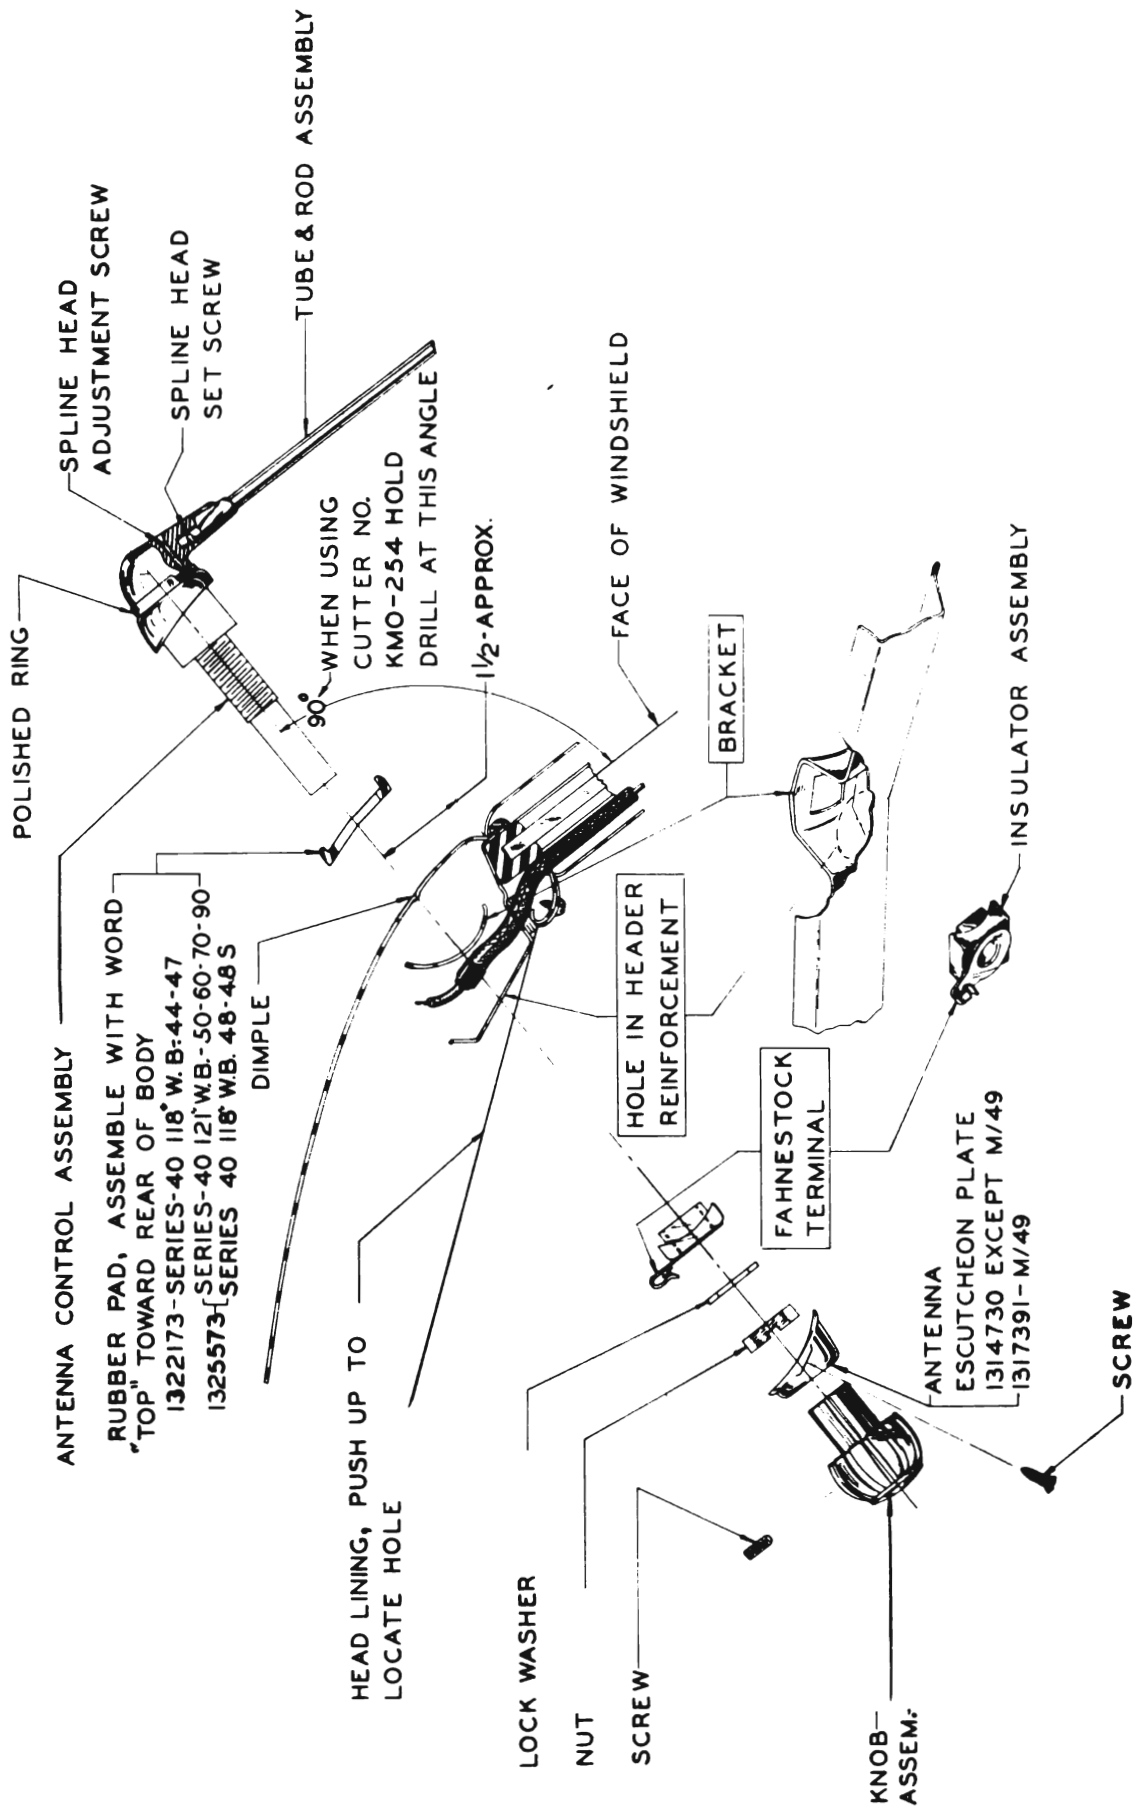

Fig. 12-103. Antenna Installation—All Closed Models
- A small dimple will be found in the center of the top directly above the windshield in the approximate location shown. (See Fig. 12-103.)
Two "slits" (at right angles to each other) should be cut through the headlining directly in the center and opposite the hole just drilled in the top. By holding the headlining tightly against the header reinforcement (Fig. 12-103) a hole  $1\frac{1}{4}$ " in diameter can be felt in the reinforcement. The slits should extend only across this hole.
- insulator. (Fig. 12-103.)
- reinforcement. (Fig. 12-103.) The Fahne-
- polished ring. (Fig. 12-103.)
7. Install antenna escutcheon plate. (Fig. 12-103. (Screw holes are provided in the header reinforcement.)